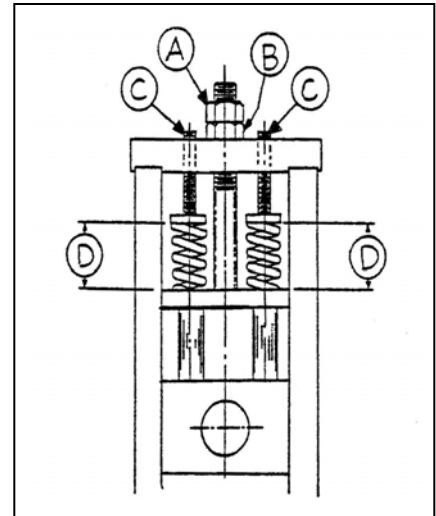

Figure 3-5
3. Using two wrenches, loosen locknut "A", Figure 3-5, located directly over the upper crimper shaft bearing housings, on both sides of the crimper assembly. Turn nut "B" to raise or lower the upper crimper shaft. If you turn nut "B" in the clockwise direction, you increase the distance between the upper and lower crimper shafts, decreasing the crimper pressure. If you turn nut "B" in the counter clockwise direction, you decrease the distance between the upper and lower crimper shafts, increasing the crimper pressure. This adjustment must be done equally to both sides to keep the upper crimper shaft parallel to the lower shaft.
From time to time, it may be necessary to increase or decrease the spring pressure on the upper crimper. To INCREASE pressure, TURN SCREWS "C" (FIGURE 3-5) CLOCKWISE. After the adjustment is made, make sure all spring lengths "D" (Figure 3-5) are approximately equal. To DECREASE pressure, TURN SCREWS "C" COUNTERCLOCKWISE.
With the crimper faces closed, the slot in the metadiametric drive in the horizontal position, and the pause set to the maximum "INCREASE" (see Figure 3-5), reconnect the drive chain between the crimper drive and crimpers. Now run the machine. You should notice that the pause occurs at the time the crimping faces are together.